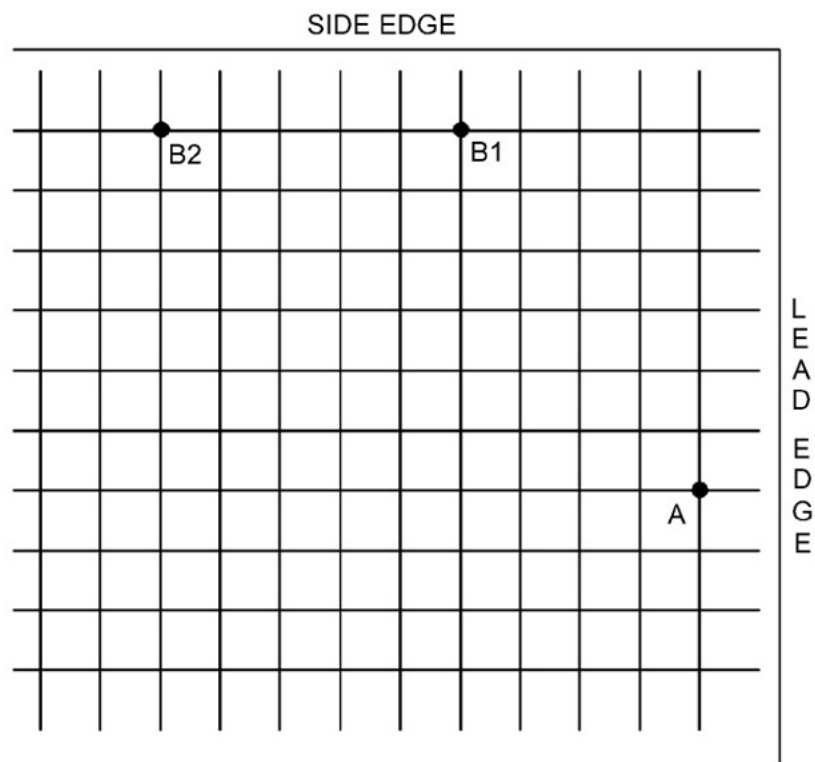

Figure 1 Test Pattern Measurement Points
8. Take the third print and measure from the lead edge to point A (as shown on Figure 1). Point A is at the intersection of the 7th line from the side edge and the first line from the lead edge.
4. Take the third print and measure from the lead edge to point A (as shown on Figure 1). Point A is at the intersection of the 7th line from the side edge and the first line from the lead edge.
- For paper larger than letter size, such as 11 x 17 / A3 (that was recommended for loading in Trays 1, 2, and Tray 5 / Bypass), measure from the intersection between the 1st line from the side edge and the 10th line from the lead edge of the paper (point B2 on Figure 1).
- For letter size (8.5 x 11 / A4), paper (that was recommended for loading in Trays 3, 4, and 6), measure from the intersection between the 1st line from the side edge and the 5th line from the lead edge of the paper (point B1 on Figure 1).